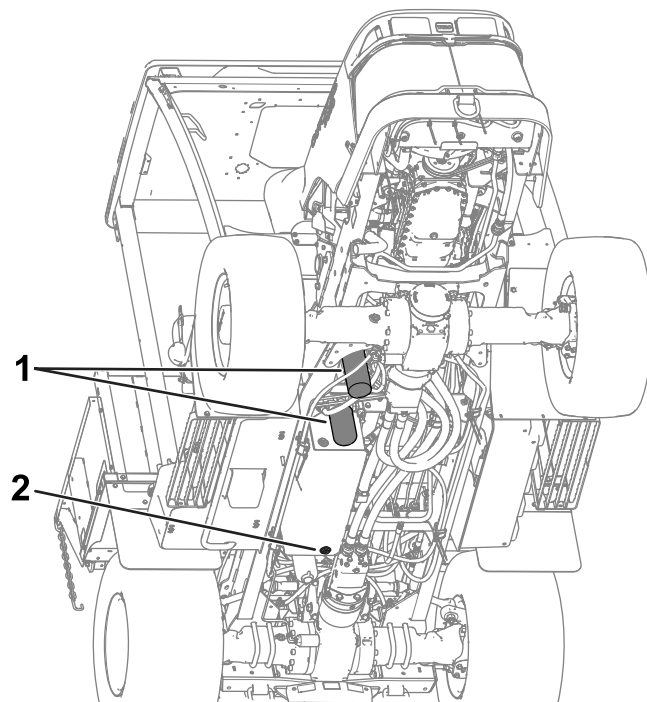

Figure 114
5. Remove the drain plug from the bottom of the tank and let the hydraulic fluid flow into the pan (Figure 114).
8. Place a drain pan under the filter and remove the filter (Figure 114).